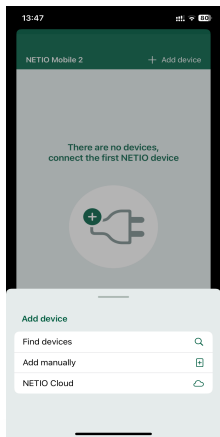

Figure 7
- 3) Click on “FIND DEVICES”. The list of all discovered NETIO devices will appear (displaying name, MAC address). If needed add additional equipment manually or via NETIO Cloud (Figure 7)